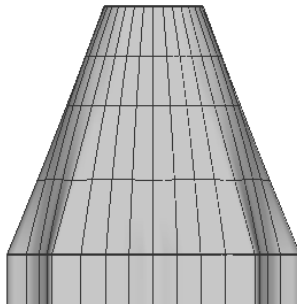

Figure 11-101 Neck of the bottle created
4. First, select the top edge of the body, and then select the two circles with the SHIFT key pressed; the neck is created, as shown in Figure 11-101.